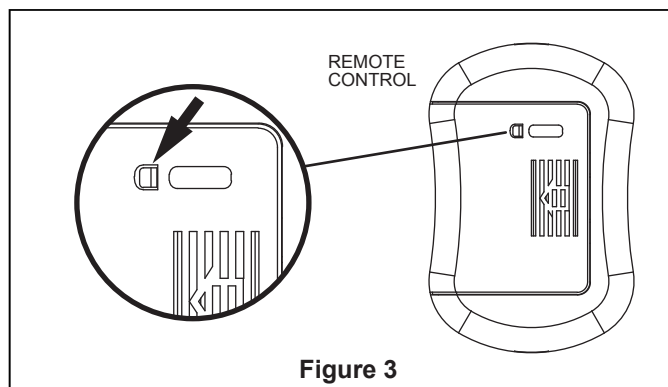

Figure 3
2. Remove the four screws and hex nuts with flat washer from the ceiling plate assembly. Retain the screws, hex nuts and flat washers for reinstallation in steps 7 and 8 of page 10. (Figure 3)
3. First drill 3/16" pilot holes into the plywood base or supporting member to prevent splitting or cracking. Mount the pulley assembly on the ceiling with 1/4" x 2" lag bolts and flat washers. The lag bolt will pass through the flat washer and into the building structure. (Figure 3)
- ☐ 3. Using the rivets, rivet washers, and the rivet tool provided, install two rivets. The flat head of the rivet must be on the inside of the belt (the side touching the pulley), while the rivet washer is placed on the outside of the belt. (Figures 3, 4, & 5)
3. Securely fasten the two blades (not included) with washer-head screws with fiber washers. Do not over-tighten. (Figure 3)
- ☐ **3.** Remove battery cover with a small screwdriver or ball point pen firmly press the tab and slide battery cover off. (Figure 3)